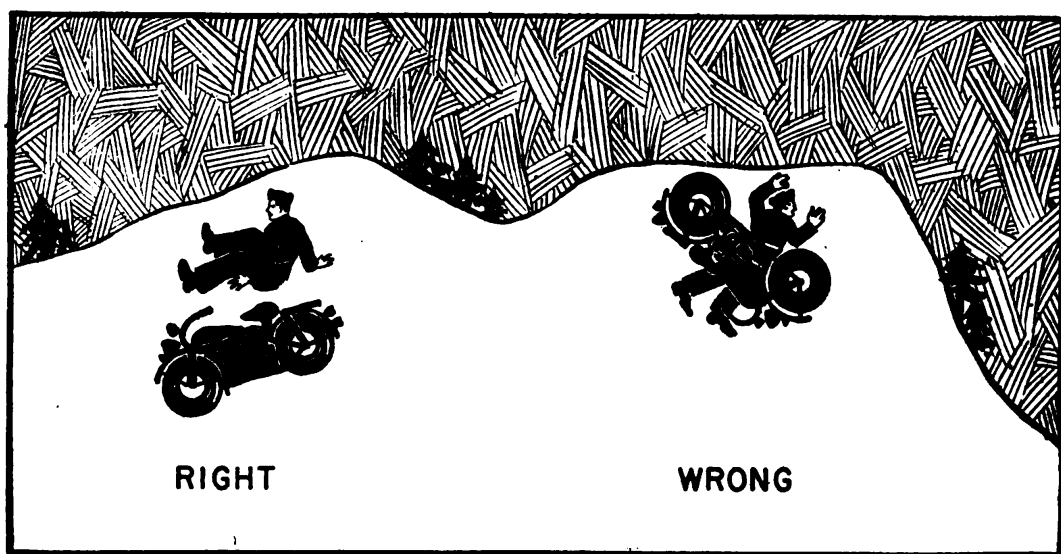

FIGURE 16.—How to fall from a solo motorcycle.
*c. Falling.*—Usually a fall with a solo motorcycle, even on a steep slope is not dangerous. It can be dangerous, however, if the fall is downhill, because the vehicle may land on the driver. Try to fall on the “uphill side,” as shown in figure 16.